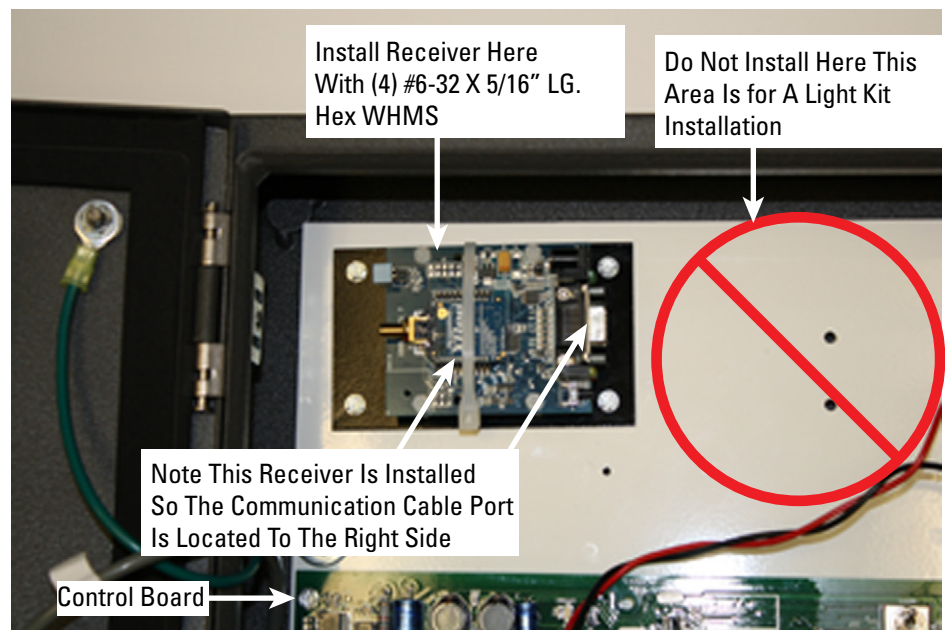

Fig. 1
- A. Install receiver above control panel as shown in , Fig. 1. Please note that you must leave room for a light kit or one may already be present.